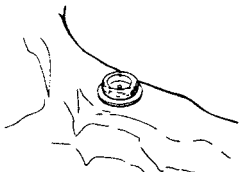

Fig. 5
2. Place a White Block-Out Spacer (Zest order #8519 Package) over the head of each Locator Abutment. (Fig. 5)